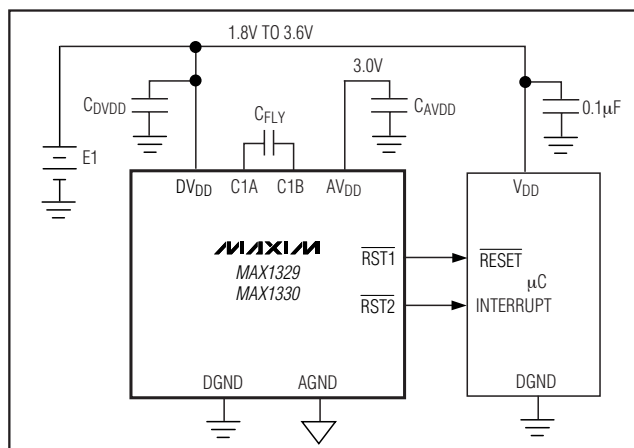

Figure 25. Power-Supply Circuit Using a Battery for  $DV_{DD}$  and Internal Charge Pump Set to 3.0V for  $AV_{DD}$
Figure 25 shows  $DV_{DD}$  is powered from a battery with the charge-pump output set to 3.0V. The charge pump can draw high peak currents from  $DV_{DD}$  under maximum load. Select an appropriately sized bypass capacitor for  $DV_{DD}$  ( $\geq 10$  times  $C_{FLY}$ ). Supply ripple can be reduced by increasing  $CAV_{DD}$  and/or the charge-pump clock frequency.
**Table 32. External Component Selection for 25mA Output Current and  $2V_{DVDD} - V_{AVDD} \geq 0.4V$  (Figure 25)**